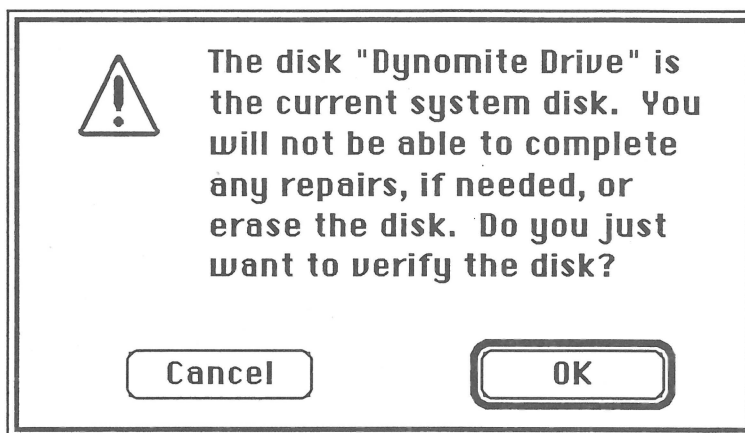

FIGURE 3
6. If the selected SCSI drive is also the system startup disk, you will see the window shown in Figure 3. *Disk First Aid* will not let you repair or erase the system disk, but it will allow you to verify it. If you want to verify the selected disk, click **OK**.